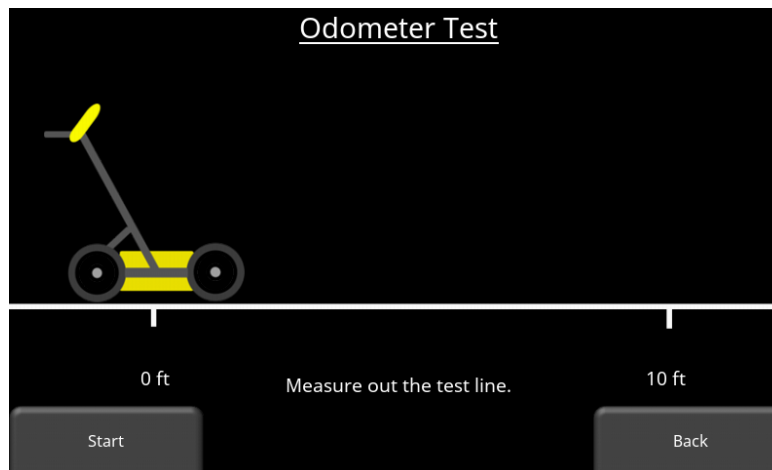
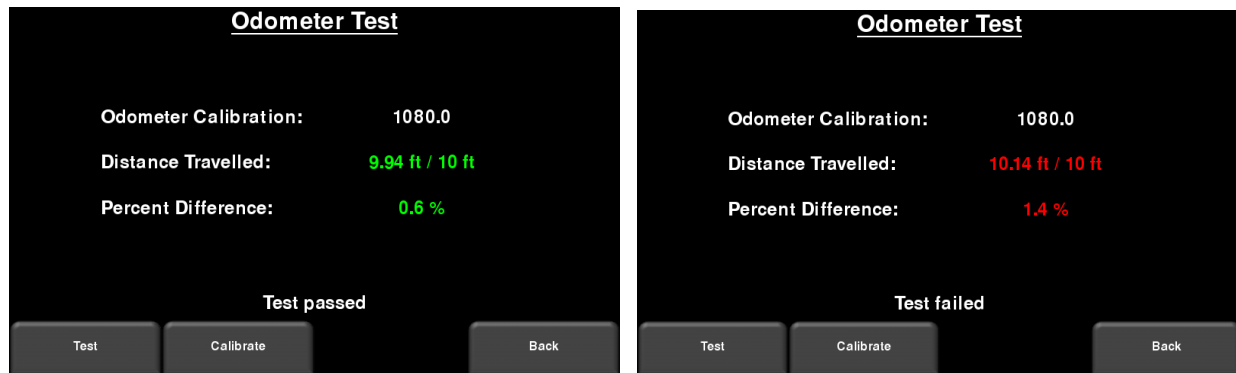

Figure 5-30: Ready to test odometer for a distance of 10 feet
Figure 5-31: Odometer Test passed on left, failed on the right
- **Odometer Test** – This test verifies that the odometer is calibrated properly. It measures a set distance (5m or 10') on the surface and then moving the system over that distance. Press **Start** to begin and then press **Finish** when you have moved that distance (Figure 5-30). It will display a pass or fail, along with a percentage difference from the known value (Figure 5-31). If the test fails or the percentage difference is larger than the user would like, they should run an odometer calibration (explained below).